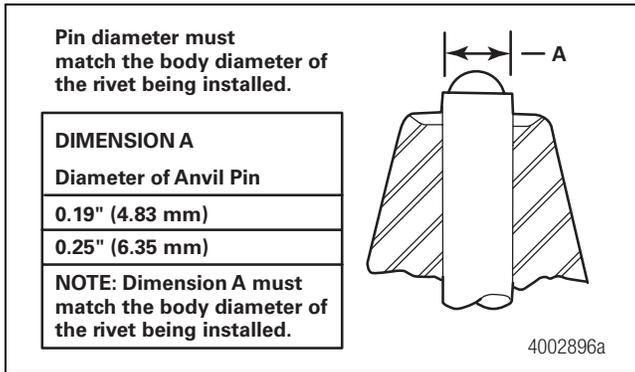

Figure 8.4
3. Use a micrometer to measure the diameter, Dimension A, of the anvil pin. Figure 8.4. Record the dimension.